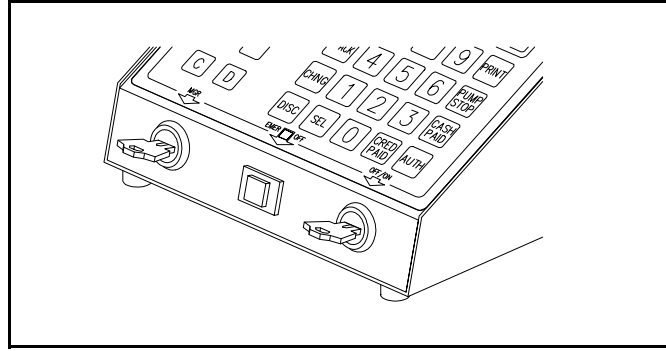

Figure 19
**The Manager Key Switch.** See Figure 19.
The Manager key switch is located on the left front of the console. Put the key switch in the ON position (horizontal as shown in Figure 19) to enter or change programmed information in the console's memory. For normal operation, put the key switch in the OFF (vertical) position.
**The Emergency Off Button.** See Figure 19.
**The ON/OFF Key Switch.** See Figure 19.
The ON/OFF key switch is located on the right front of the console. This key switch must be in the ON position (horizontal as shown in Figure 19) for normal operation. To keep the battery from discharging, turn the switch off whenever AC power to the system is turned off.